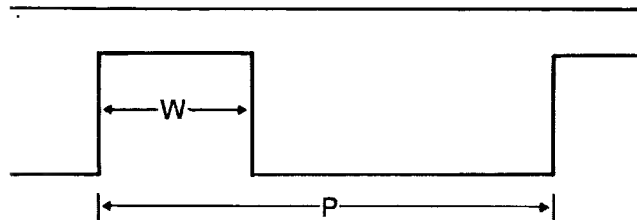

Figure F-3.
1. Symmetry defined as a percentage is the ratio of positive half cycle time to the period (see figure F-3):